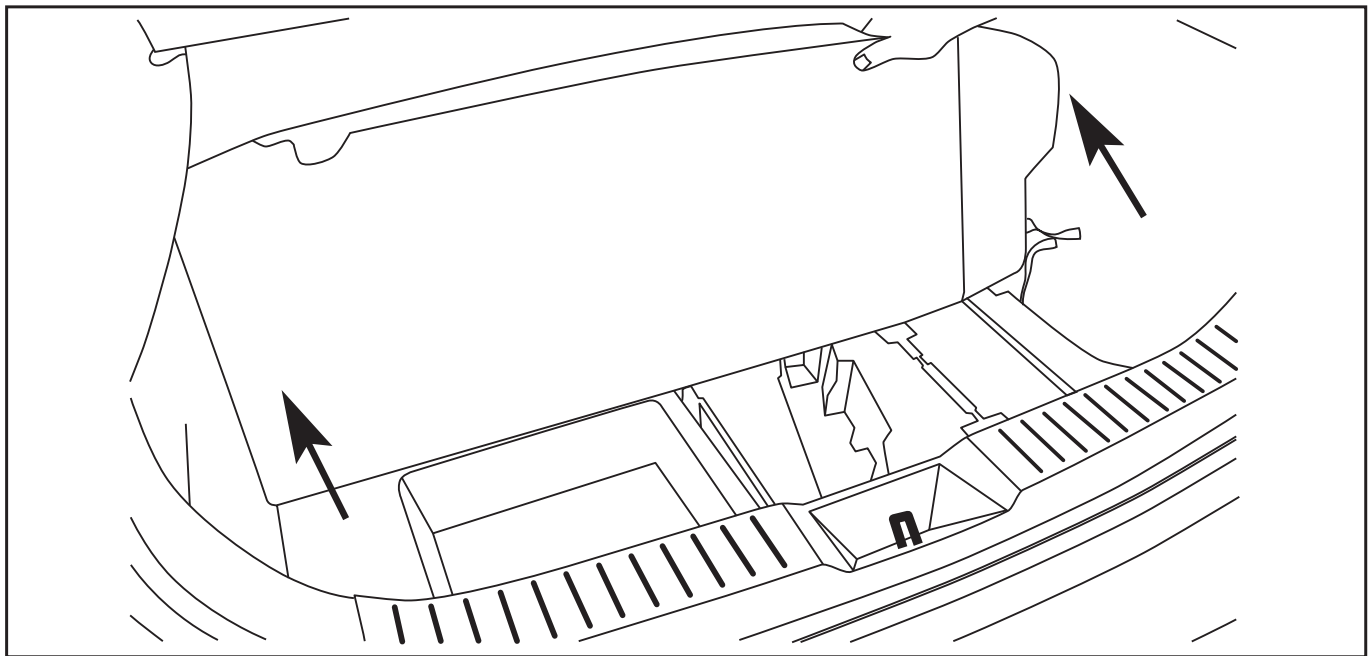

Fig. 3
4. Lift the load floor cover (Fig. 3).